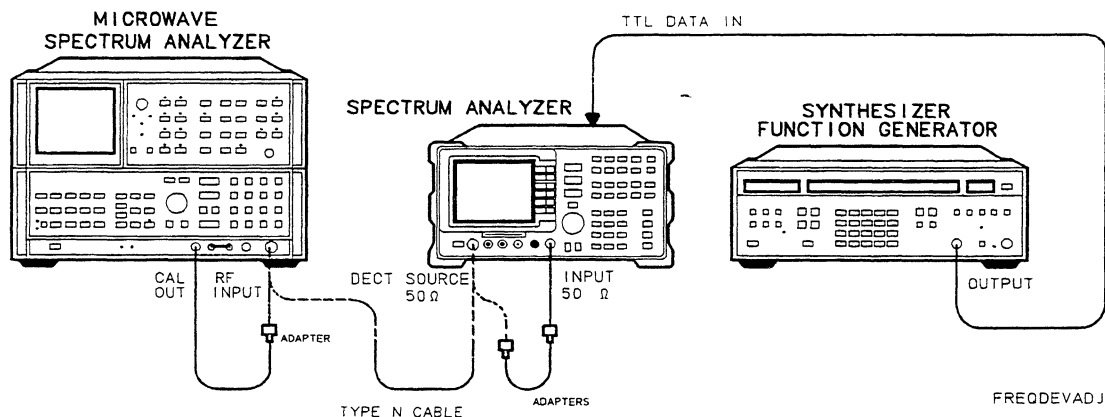

Figure 10-6. Frequency Deviation Adjustment Setup
2. Connect the Type N cable between the DECT SOURCE 50 Ω and INPUT 50 Ω connectors on the spectrum analyzer. Refer to Figure 10-6.
12. Connect the synthesized function generator to the spectrum analyzer TTL DATA IN connector. Refer to Figure 10-6.